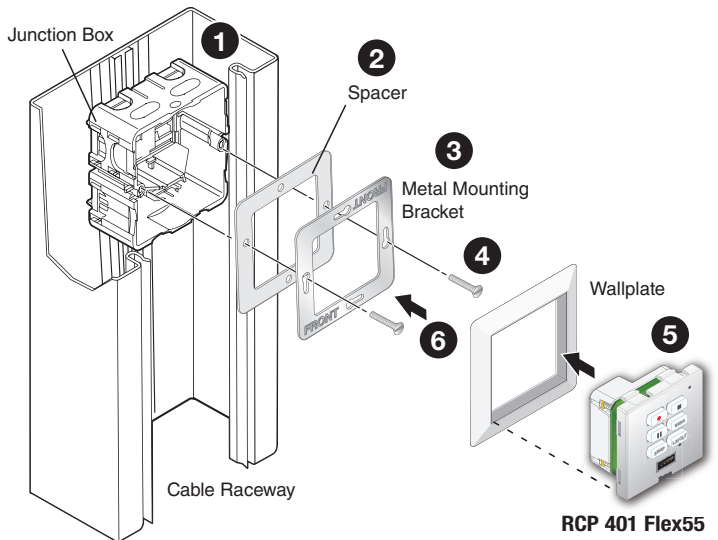

Figure 7. Mounting in a Cable Raceway
1. Mount an electrical box in the raceway (figure 7, ❶). Follow the instructions provided by the manufacturer.
2. If required, align the screw holes of the provided spacer with the holes in the electrical box (❷).
3. Align the screw holes in the metal bracket with the holes in the spacer and electrical box (❸).